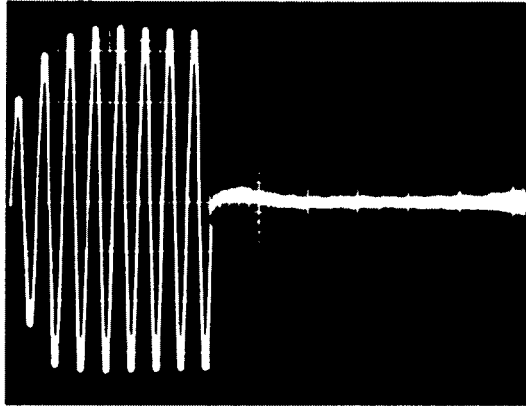

Figure 9b
7.1.5.2 Observe the output on the scope. Verify that the wave shape is substantially as shown in Fig. 9b, and confirm for the other channel.